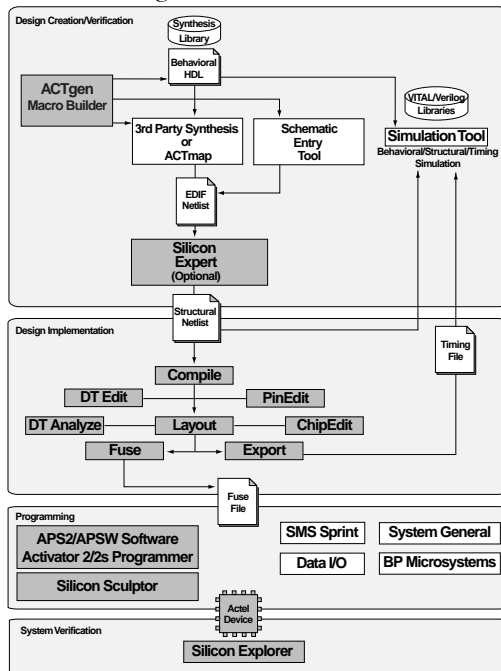

Figure 1-1. Silicon Expert Design Flow
The Actel schematic- or synthesis-based design flow has four main steps; Design Creation/Verification, Design Implementation, Programming, and System Verification. A typical design flow using Silicon Expert is shown in Figure 1-1.¹
1. Actel-specific utilities/tools are denoted by the grey boxes in Figure 1-1.